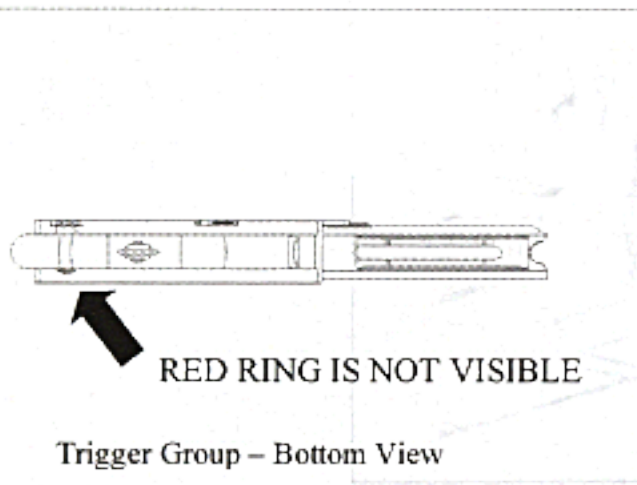

Figure 1. Safety button set on "safe"
2. **On Safe** – Depress the cross-bolt safety button, located to the rear of the trigger, into "safe" position (red ring not visible) (Figures 1 and 1a).